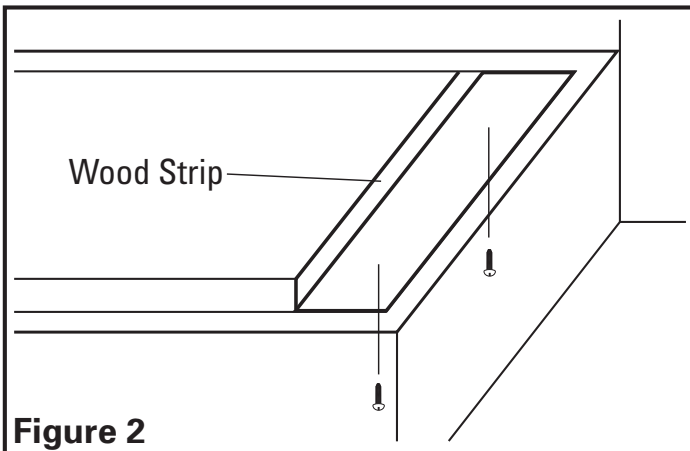

Figure 2
1. If the hood will be installed under cabinets that have a recessed bottom, it will be necessary to install wood mounting strips (not included) so the hood will mount properly (**Figure 2**).